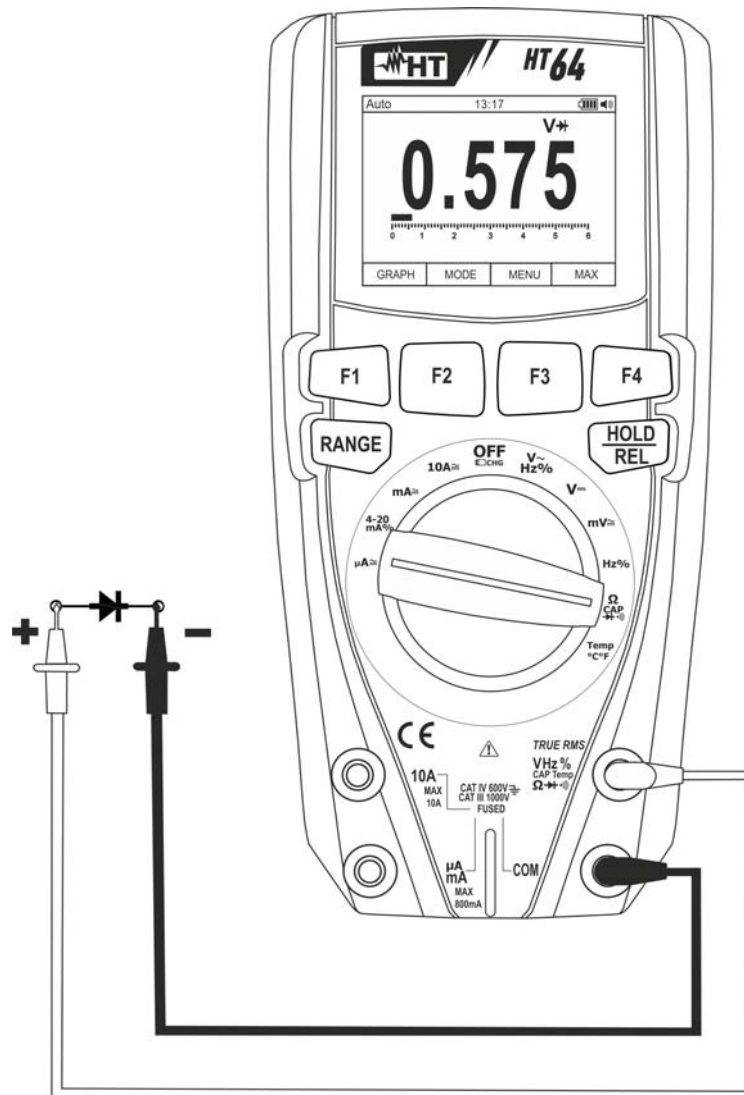

Fig. 26: Use of the instrument for diode test
4. Position the leads at the ends of the diode to be tested (see Fig. 26), respecting the indicated polarity. The value of directly polarized threshold voltage is shown on the display.
6. If the display shows the message “**O.L.**”, the terminals of the diode are reversed with respect to the indication given in Fig. 26 or the P-N junction of the diode is damaged.